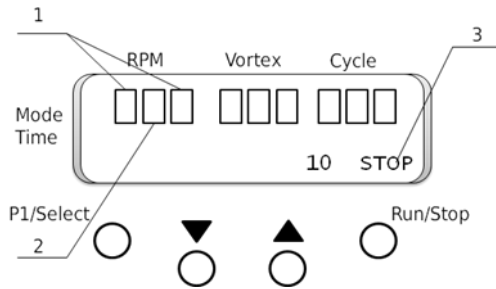

Fig.3 Control panel in STOP mode
#### 4.2. The centrifuge turns on and the display shows the following readouts (see fig.3):
- Centrifugation at 2500 RPM for 10 seconds (First Square (Fig.3/1))
- Hard vortexing for 150 seconds (Second Square (Fig.3/2))
- Centrifugation at 2500RPM for 10 seconds (Third Square (Fig.3/1))
- Operation status indication (Fig.3/3) (STOP- when rotor is stopped, OPEN – if the centrifuge lid is open, RUN – unit in operation, rotor spinning).
- 4.12. Open the lid to take tubes out. It is recommended to leave the lid open during the sleep mode. After 2hours the unit automatically returns to operation in STOP mode (Fig.3) allowing to continue operation as described above.